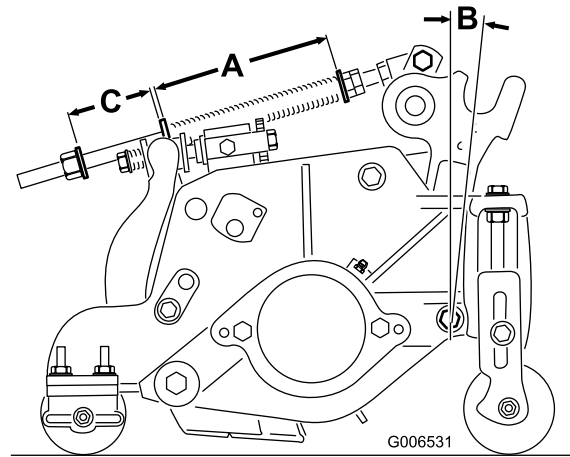

Figure 20
The Turf Compensation Spring (Figure 20) transfers weight from the front to rear roller. This helps to reduce a wave pattern in the turf, also known as bobbing.
1. Tighten lock nut on rear of spring rod until the gap (C) between rear of spring bracket and front of washer is 2 in. (51 mm) (Figure 20).
2. Tighten hex nuts on front end of spring rod until the compressed length (A) of spring is 6.25in. (159 mm) (Figure 20).
Note: When cutting undulating turf, increase the compressed spring length (A) and the gap width (C) 1/2 inch (Figure 20).